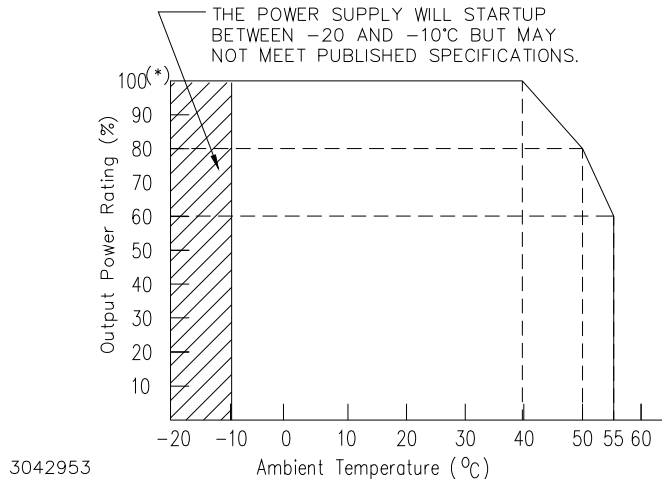

FIGURE 2. POWER RATING VS. TEMPERATURE
- (1) **M Models only:** To adjust output voltage down to approximately 0V use external voltage source or resistance (see PAR. 3.4.2). Refer to Table 4 for minimum conditions required to maintain proper operation of alarm relay, meter and visual LED indicator.
- (2) If the visual LED indicator is powered from the HSF output (see PAR 3.4.3), refer to Table 5 for minimum conditions required to maintain functionality of the indicator.
- (3) Using trimpot to attain voltages outside the specified adjustment range may trigger undervoltage (PAR 3.7.4) or overvoltage (PAR 3.7.1) faults. Recovery is by removing, and after approximately 40 seconds, reapplying AC input power or by reset (open and close) at \pm RC terminals (no delay).
- (4) See Figure 2 for power derating.
- (5) Square type. Output voltage returns automatically only if cause is removed within 30 seconds (see PAR. 3.7.2).
- (6) When overvoltage is detected, output is shut OFF. Recovery is by removing, and after approximately 40 seconds, reapplying AC input power or by reset (open and close) at \pm RC terminals (no delay).
- (7) Ripple and noise levels above are satisfied when conditions are 0 to 100% load, 0 to 40°C (load is derated from 40 to 55°C, see Figure 2), and bandwidth \leq 100MHz.
- (8) Range shown is operating range; minimum range upon startup is 0.5V higher than minimum operating range shown.